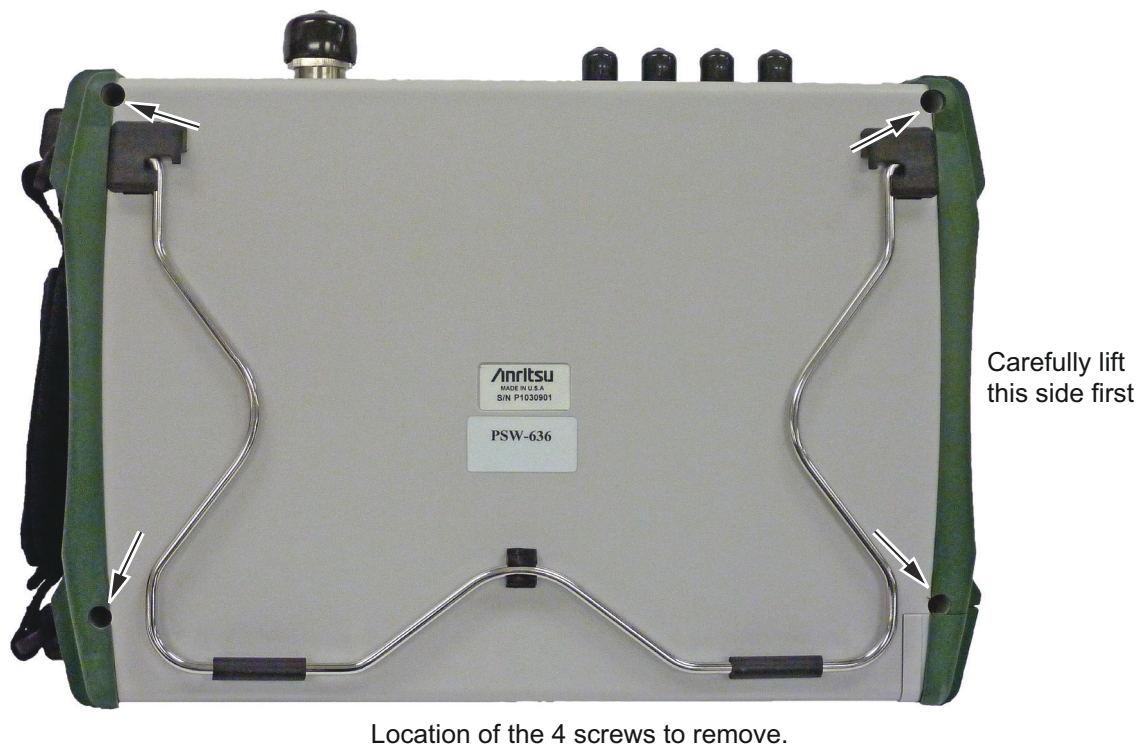

Figure 5-2. Remove the Four Screws
4. Use a Phillips screwdriver to remove the four screws securing the two halves of the Spectrum Master case together (Figure 5-2).